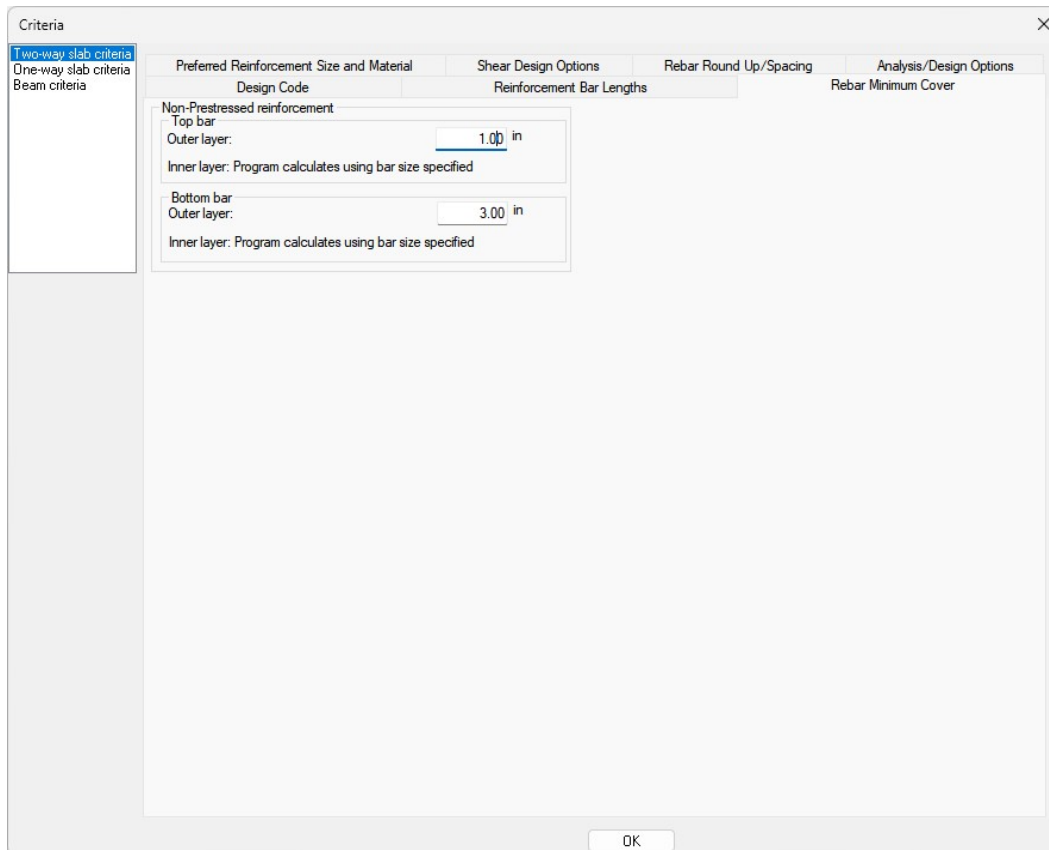

Figure 2.2-3 – Rebar Minimum Cover tab
- Click on the **Rebar Minimum Cover** tab. This will open the window from **Figure 2.2-3**.